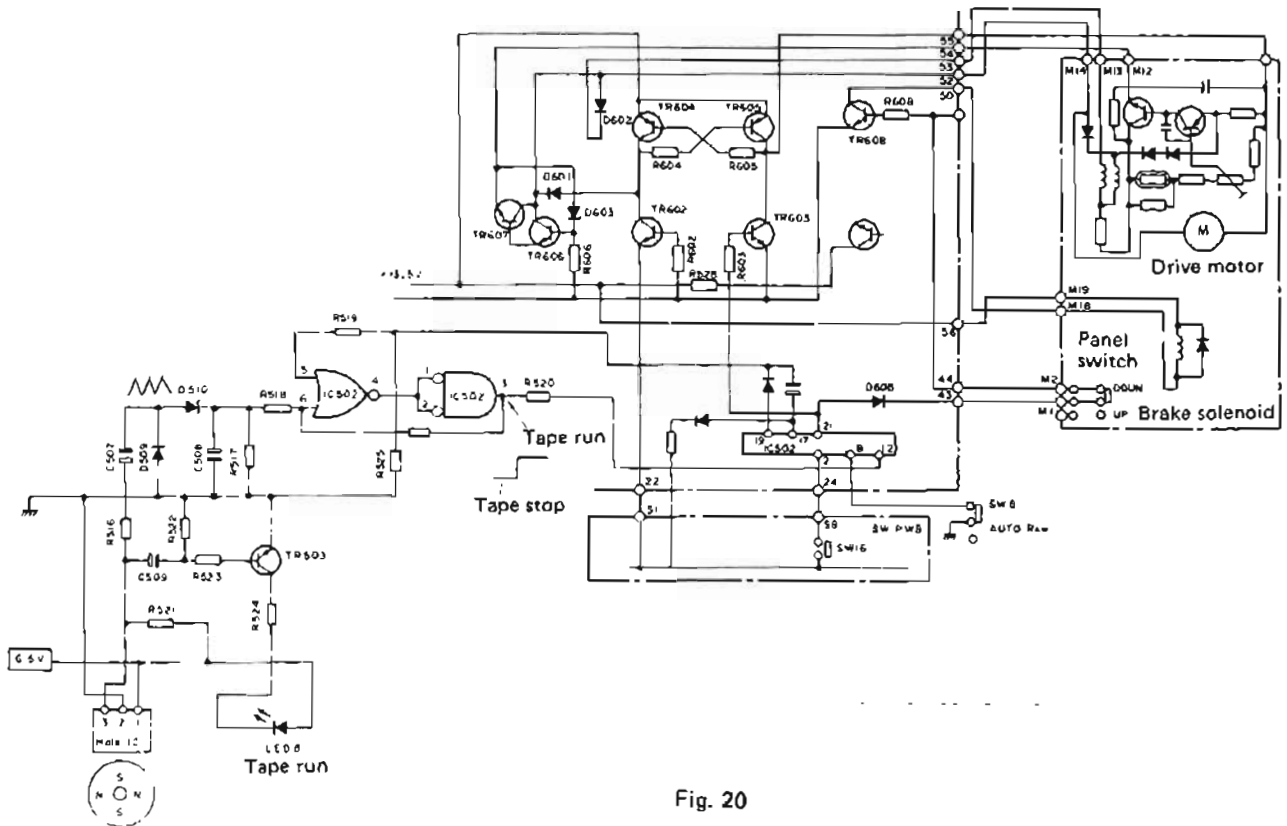

Fig. 20
### 9. AUTO REW (See Fig. 20.)
Leaving the deck unattended but ready to start recording by itself after the lapse of a preset time is a special standby mode implemented by two timer switches (SW-6-1) and (SW-6-2) connected to pins (1) and (8) of IC503, as shown in Fig. 20, in which the diagram reflects REC mode. These switches are of lever type.